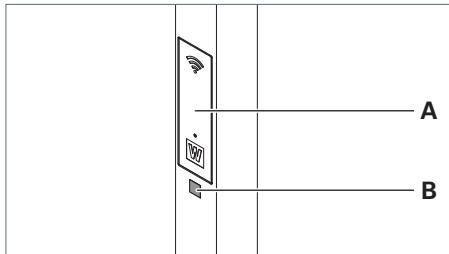

Fig. 21: Scanning QR code.
- ▶ Scan the QR code **B** of the luminaire which is located on the column underneath the service flap **A**, see Fig. 21.